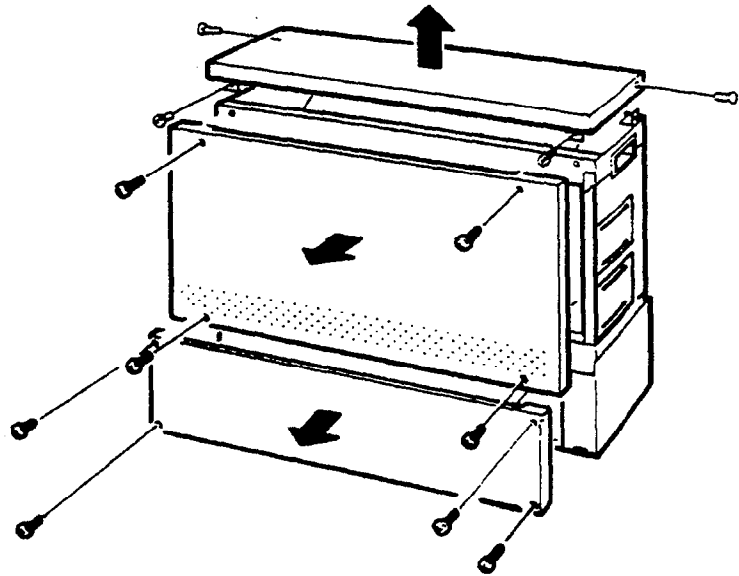

Figure 3-44 Removing the Front and Top Panels
1. Remove the the front and back panels from the Basic KSU before installing the expansion KSU. Refer to Figure 3-44 - Removing the Front and Top Panels.